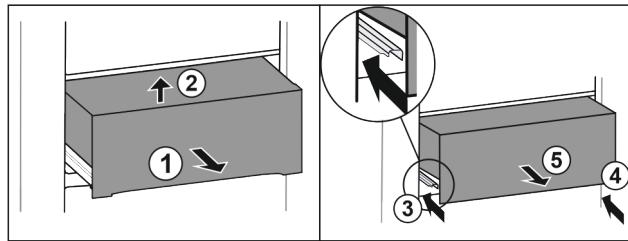

Fig. 28*
- ▶ Pull out the drawer half-way Fig. 28 (1).*
- ▶ Lift at the front Fig. 28 (2).*
- ▶ Insert left rail Fig. 28 (3).*
- ▶ Insert right rail Fig. 28 (4).*
- ▶ Take out the drawer to the front Fig. 28 (5).*